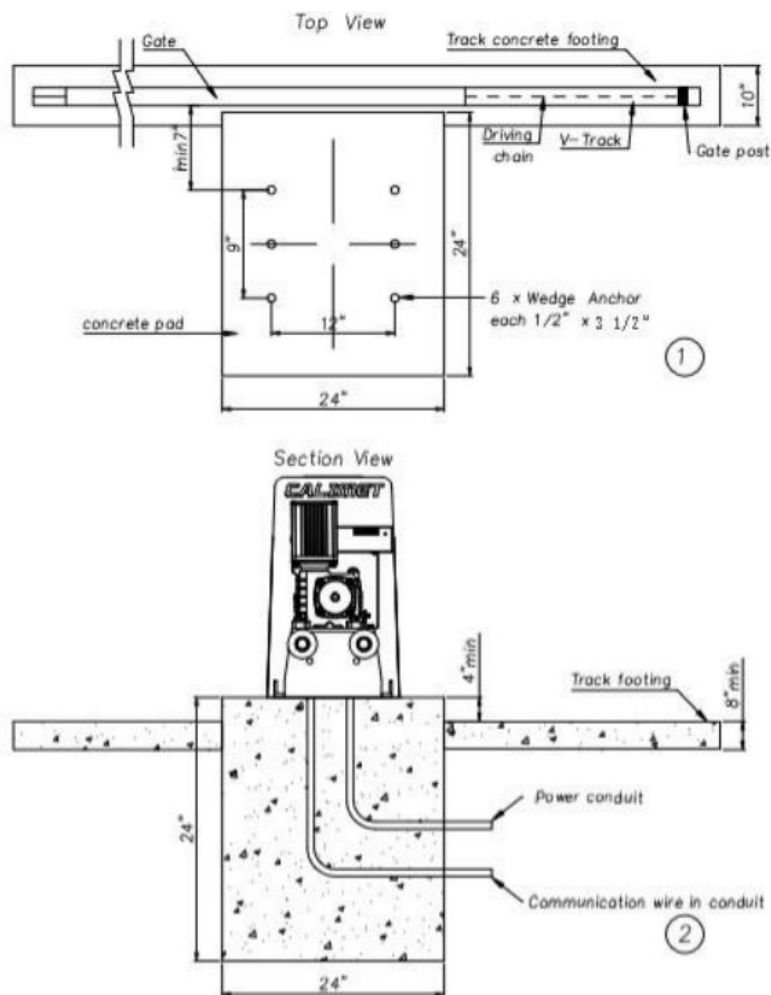

Figure 5
1. Lay out position of 6 wedge anchors by measuring clearance between anchors and inside edge of gate. Figure 5